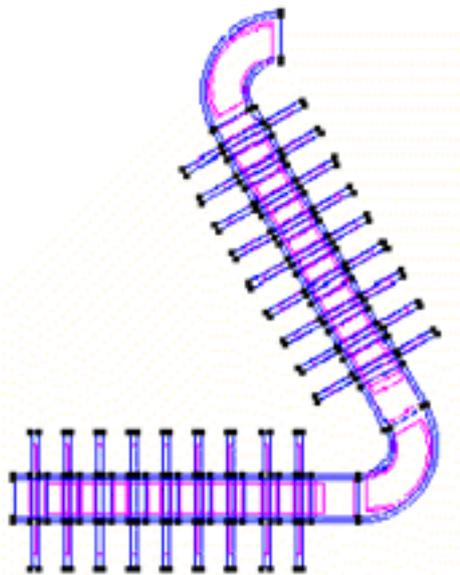

Figure 20. The final position of the translated elbow.
- 4 . Click **Select** and select the surfaces to be moved. Press **ESC**. The result should be as is shown in Figure 20.